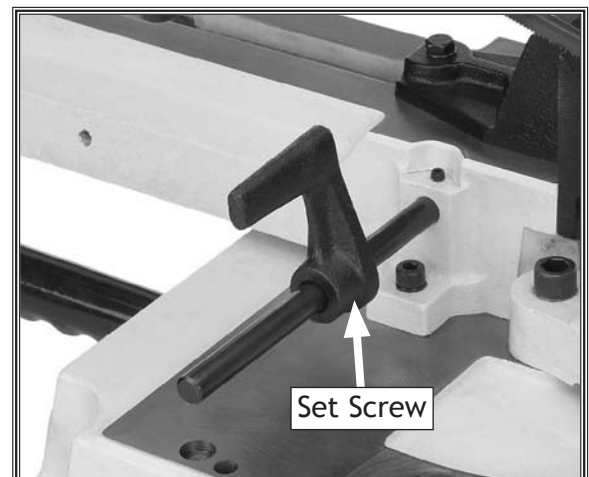

Figure 14. Cast iron stop installed.
4. Slide the cast iron stop onto the stop rod and tighten the set screw in the side of the stop, as shown in **Figure 14**.